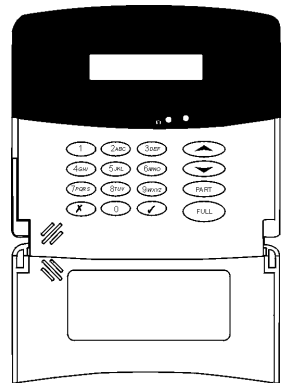

Figure 3: LCD programming Keypad (PK836)
7. All registration and test functions, described in the following sections, are performed from the LCD Programming Keypad (PK836) shown in Figure 3.